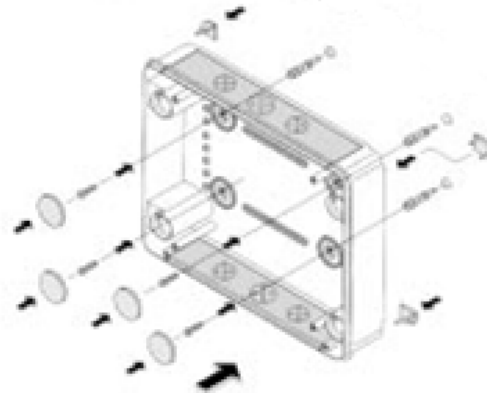

Figure 1
- Mount base on a vertical surface using 4 off fixing points. To ensure environmental protection cover screws internally with supplied caps. See Figure 1.